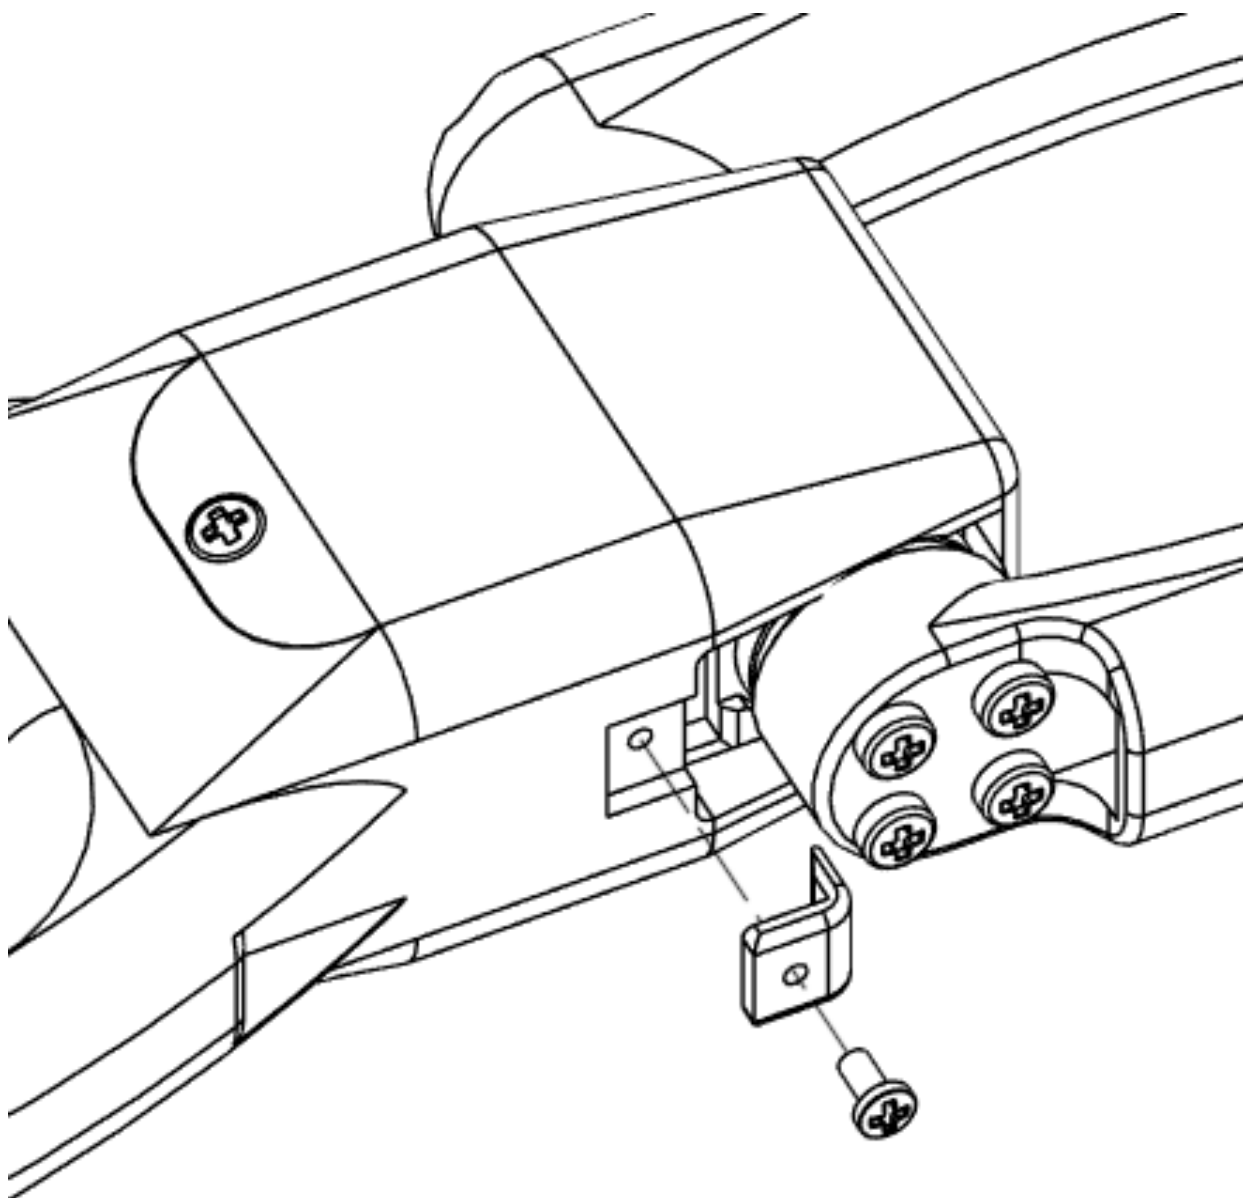

Figure 3.19 - Teleop Motor 3 Wire Clip Assembly
25. Fasten Teleop Motor 3/4 Wire Clip to Teleop Forearm as shown in Figure 3.19
- a. (1) M2x5mm
- b. **NOTE:** Arm Motor Wires not shown in Figure 3.19